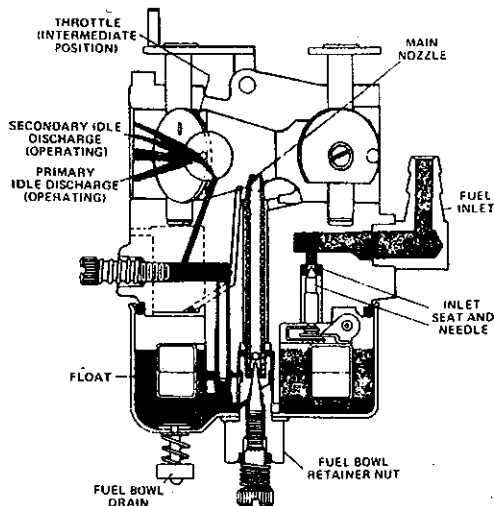

Figure 4
- D. During INTERMEDIATE operation (see Figure 4) a second orifice is uncovered as the throttle shutter opens, and more fuel is allowed to mix with the air flowing into the engine.